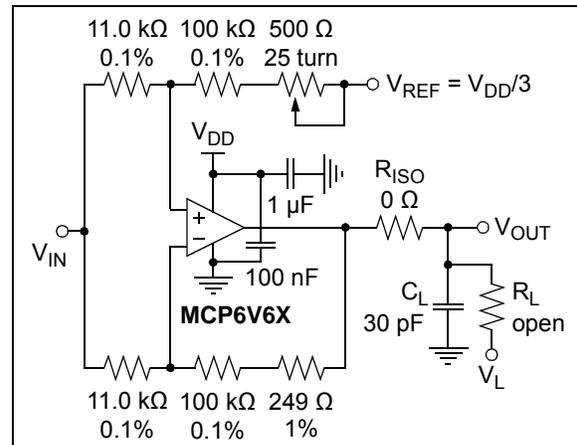

FIGURE 1-6: Test Circuit for Dynamic Input Behavior.
- Note 1:** These parameters were characterized using the circuit in Figure 1-6. In Figures 2-38 and 2-39, there is an IMD tone at DC, a residual tone at 1 kHz and other IMD tones and clock tones. IMD is Referred to Input (RTI).
The circuit in Figure 1-6 tests the input's dynamic behavior (i.e., IMD, t_{STR} , t_{STL} and t_{ODR}). The potentiometer balances the resistor network (V_{OUT} should equal V_{REF} at DC). The op amp's Common Mode Input Voltage is $V_{CM} = V_{IN}/2$. The error at the input (V_{ERR}) appears at V_{OUT} with a noise gain of 10 V/V.